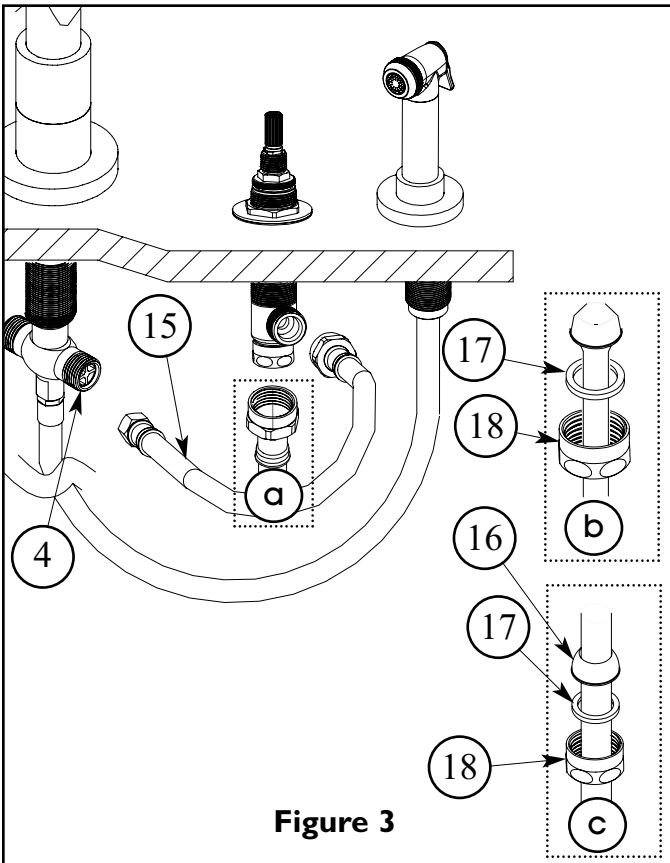
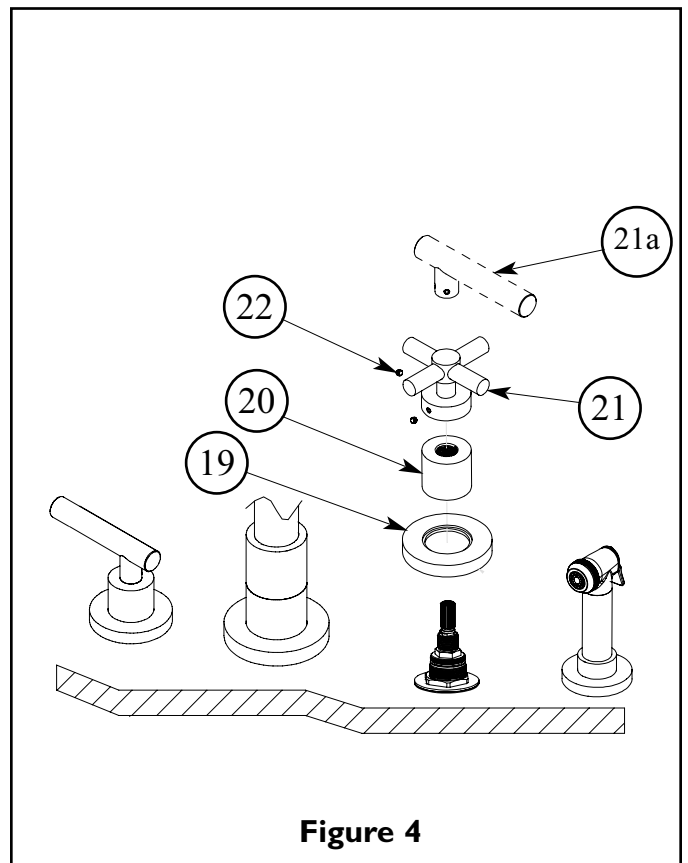

Figure 3
Figure 4
4. Connect large end of flexible HOSE (15) to side outlet of each valve BODY (8). Attach other end of HOSE (15) to either side of the TEE (4). (Hand-tighten and secure each connection with a wrench ¼ turn.) See Figure 3.
5. Connect hot/cold water supply to appropriate 1/2" NPSM valve BODY (8), utilizing one of the three following types of risers. Supply risers not included. See Figure 3.
- a. 1/2" IPS flexible riser: discard rubber nosecone WASHER (16), friction WASHER (17) and coupling NUT (18).
- b. 3/8" or 1/2" OD bullnose riser: utilize friction WASHER (17) and coupling NUT (18).
- c. 1/2" copper riser: utilize rubber nosecone WASHER (16), friction WASHER (17) and coupling NUT (18).
6. Thread ESCUTCHEON (19) and BONNET (20) onto valve. Any adjustments for rotational alignment must be made to the valve body - not to the cartridge. (Note: Allow minimum spacing between HANDLE (21, 21a) and BONNET (20) to prevent damage to the surface finish.) Attach HANDLE (21, 21a) and secure into place with SETSCREW (22). See Figure 4.
7. Remove AERATOR (23) from SPOUT (1), turn on water supply, and flush both valves until water is clear. Check for leaks and make any final adjustments required. Re-attach AERATOR (23) to the SPOUT (1).